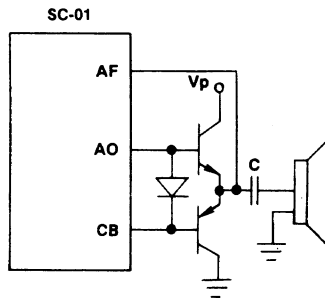

Figure 12. Class B Amplifier
**Class B Amplifier:** See Figure 12. A current source (CB) is required for this push-pull amplifier.